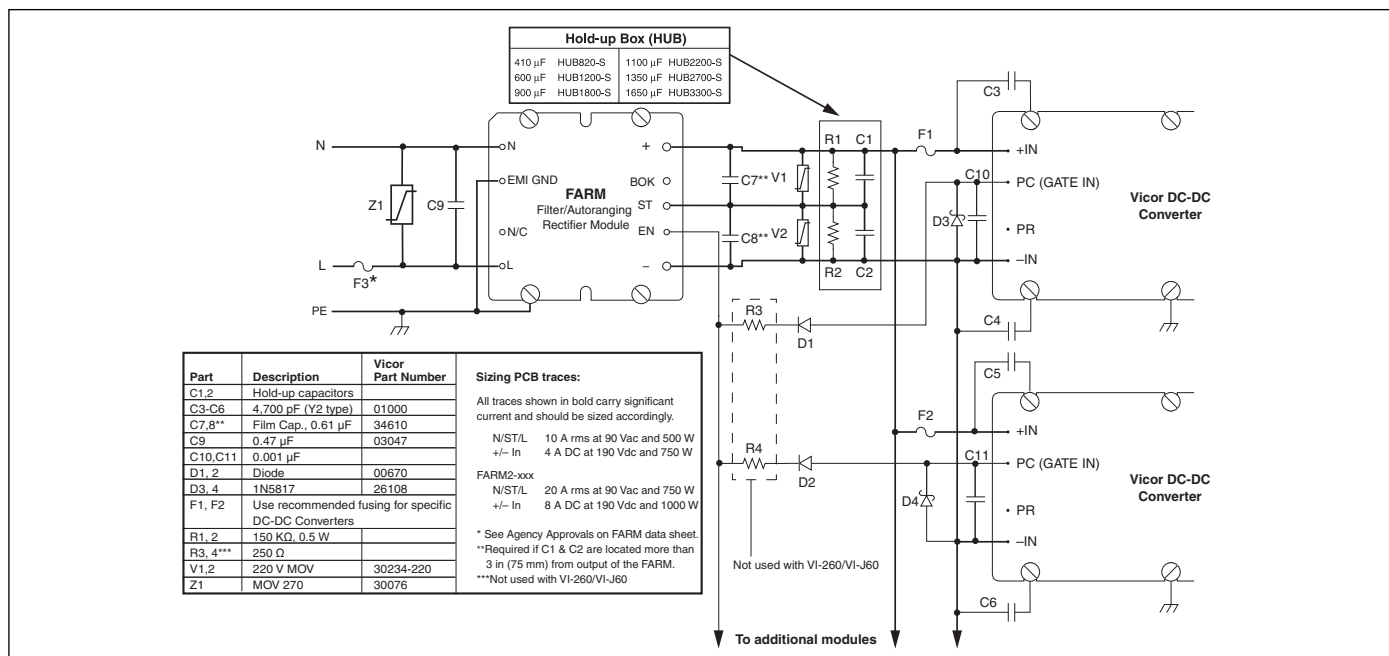

Figure 8–3 — Offline power supply configuration
**Strap (ST) Pin.** In addition to input and output power pin connections, it is necessary to connect the Strap pin to the center junction of the series hold-up capacitors (C1, C2, Figure 8–3) for proper (autoranging) operation. Metal-oxide varistors, V1 and V2 provide capacitor protection. The bleeder resistors (R1, R2, Figure 8–3) discharge the hold-up capacitors when power is switched off. Capacitors C7 and C8 are recommended if the hold-up capacitors are located more than 3 inches (75 mm) from the FARM output pins.
**Bus OK (BOK) Pin.** (Figure 8–5) The Bus OK pin is intended to provide early-warning power-fail information and is also referenced to the negative output pin.
**Filter.** (Figure 8–6) An integral input filter consists of a common-mode choke and Y-capacitors (line-ground) plus two X-capacitors (line-line). This filter configuration provides common-mode and differential-mode insertion loss in the frequency range between 100 kHz and 30 MHz.
**Hold-up Capacitors.** Hold-up capacitor values should be determined according to output bus voltage ripple, power fail hold-up time, and ride-through time. (Figure 8–7)